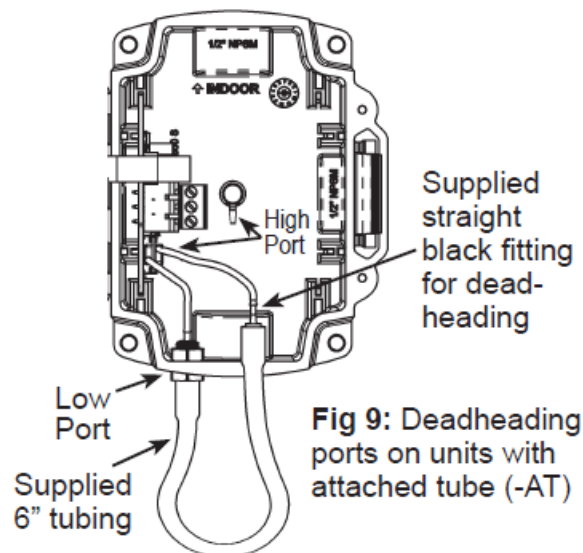

Fig 9: Deadheading ports on units with attached tube (-AT)
3. Disconnect the short clear tubing from the 90° black Attached Tube fitting with your fingers (Fig. 9). A pliers may cut the tubing.
4. Connect the clear tubing to the supplied straight black fitting on the 6" tubing (Fig. 9). Do not kink the tubing.